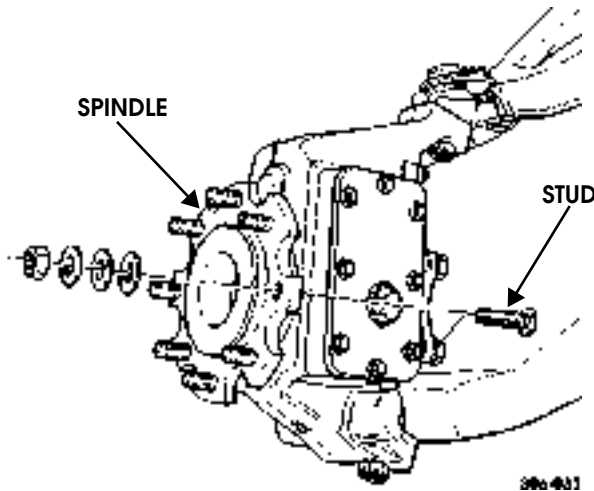

Figure 9-44: Geared Hub Spindle Stud Removal
2. Rotate spindle to allow clearance for removal of stud from spindle (Figure 9-44).
1. Install stud in spindle (Figure 9-44).